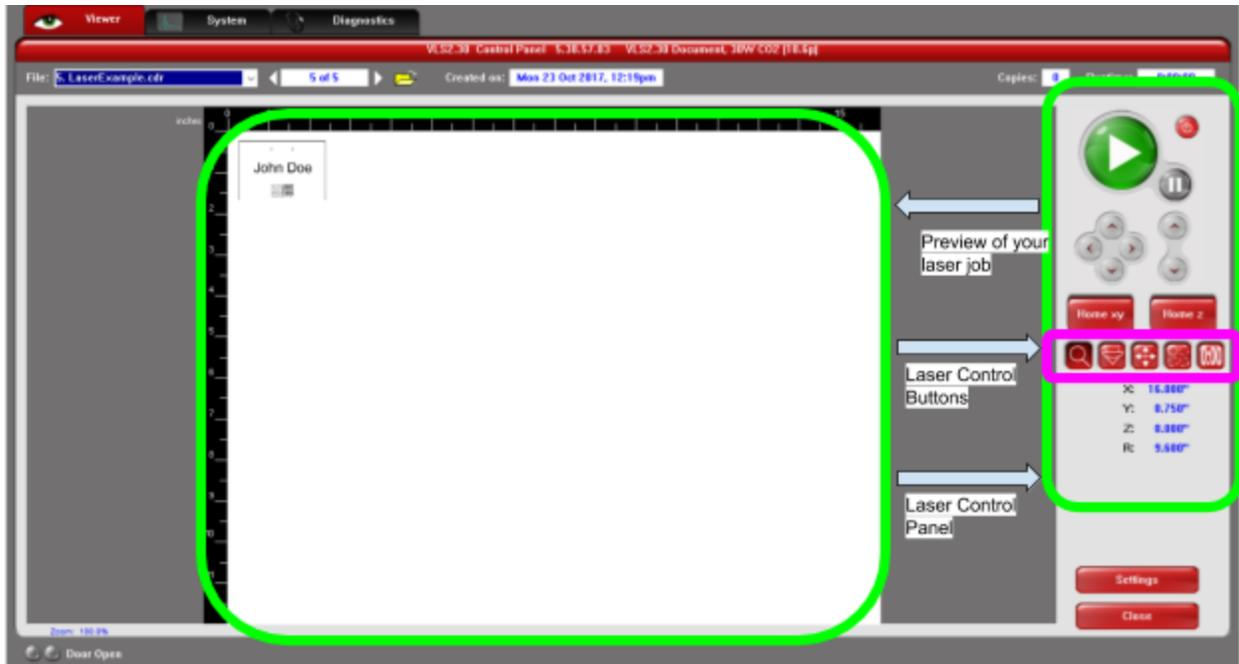

Figure 12 - Universal Laser Systems Control Panel
3. The Universal Laser System Control Panel (Figure 12) has a Preview Panel, which shows a layout of your job and gives a preview as the laser is engraving and cutting. The Laser Control Panel allows you to configure your job. The row of five buttons under the “Home xy” and “Home z” buttons allows you to:
4. Complete one final check to ensure your material is properly loaded and leave the lid open. Press the green play button in the Laser Control Panel (Figure 12) and the machine will do a ghost cut which will let you verify you’ve correctly placed the job in the laser area. You may need to move the design around to avoid material defects. To stop the ghost cut press the pause button in the Laser Control Panel